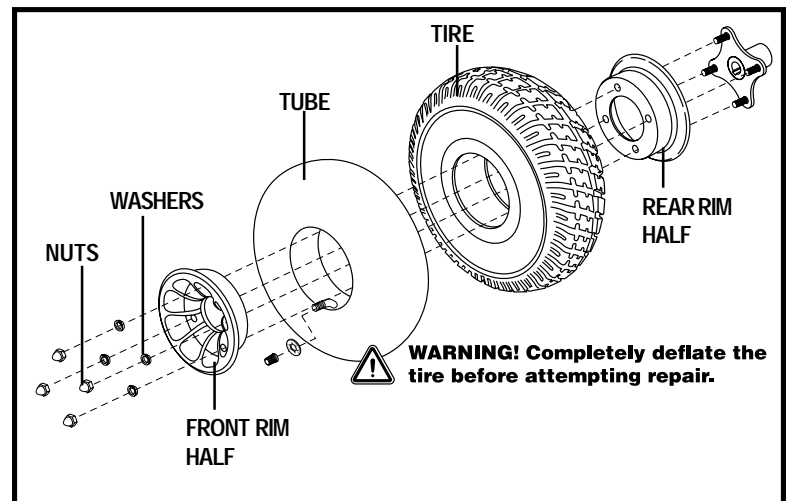

Figure 30. Drive Wheel Disassembled
6. Remove the nuts and washers that fasten the two rim halves together. See figure 30.